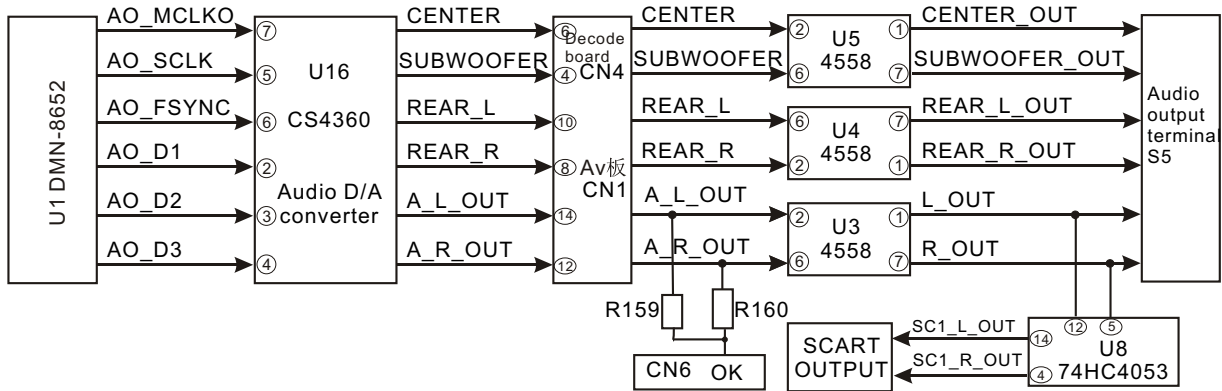

Figure 3.2.2.1 Audio output signal flow chart
1. Audio output signal flow chart is shown in the figure 3.2.2.1: